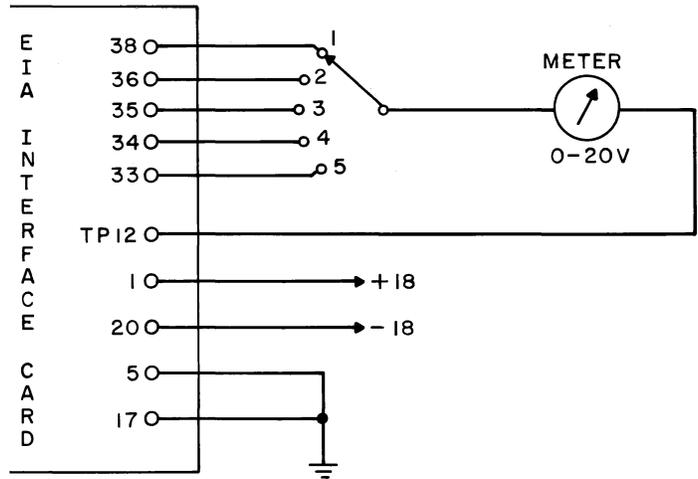

Fig. 33 - (EIA Interface Test)
- (a) With the card connected as in the suggested test circuit shown in Fig. 33, connect ground to terminals 5 and 17, +18 ± 0.5 volts dc to terminal 1, and -18 ± 0.5 volts dc to terminal 20. Measure the voltage between the input and test point 12 of each of the five driver inverters by rotating the switch through positions 1 to 5. This voltage should be +9.3 ± 1.0 volts dc.